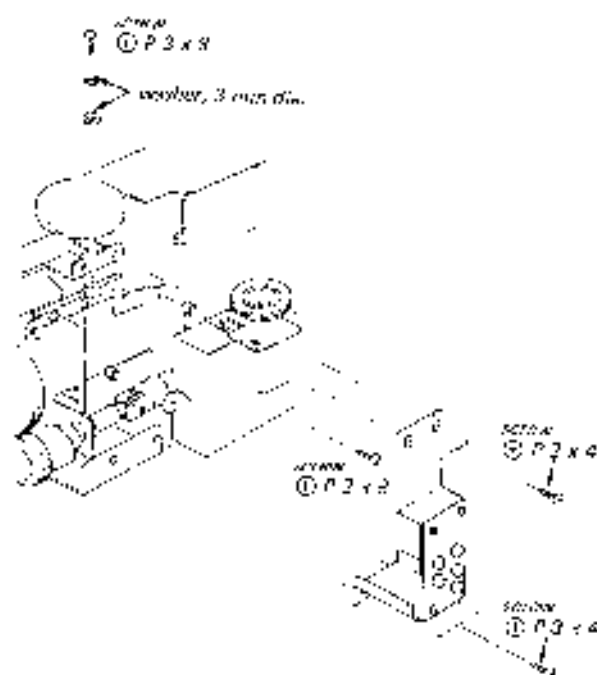

Fig. 2-3.
3. Set the FM front end with three screws. See Fig. 2-3, above.